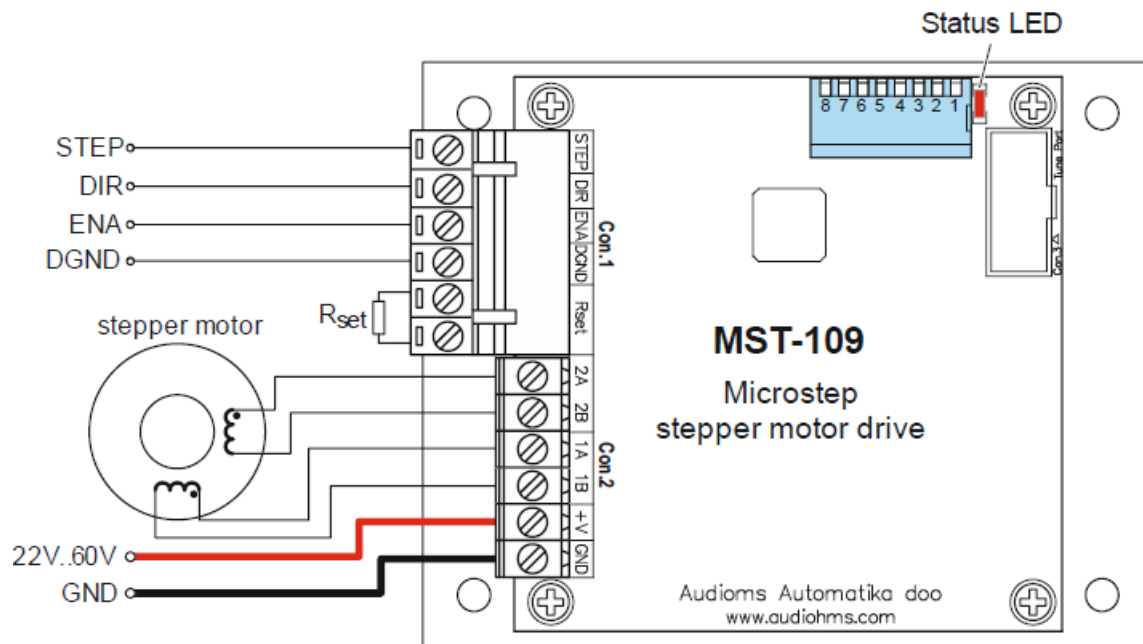

Figure 4.1 Drive outline and wiring diagram
Figure 4.1 gives the drive outline and wiring diagram of the microstep stepper motor drive MST-109.
Stepper motors with 4, 6 and 8 leads can be connected to drive MST-109. Connection of stepper motor with 4 leads is shown at Figure 4.1, while other possible connections are shown on Figure 5.1. Calculation of maximum
- If switch 8 is inactive (↑) then Software Enable mode is selected. In this mode, the ENA input on connector Con.1 (Figure 4.1) is active. If there is logical “high” at the ENA input, the drive is active and will execute the commands coming to it from the STEP and DIR command lines. In case there is a logical “low” at the ENA input, then the MST-109 drive is inactive, STEP and DIR commands are not executed and the stepper motor is not energized (this option is often used if it is necessary to manually rotate the stepper motor), and
- If switch 8 is active (↓) then Hardware Enable is selected. In this mode, the ENA input on connector Con.1 (Figure 4.1) is not functional. The drive is always active.
There is a status LED on the MST-109 stepper motor drive board (Figure 4.1). Table 8.1 gives a description of the possible motor drive states indicated by the status LED.